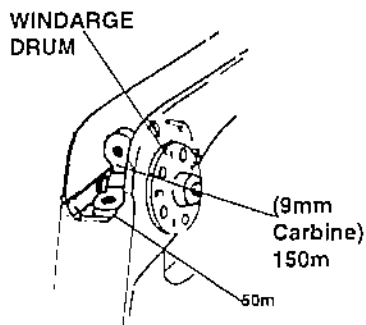

FIGURE 2 — REAR SIGHT
## Use of Sights on 9mm Carbine (Figure 2 & 3)
1. Adjust windage on rear sight; see Figure 2.